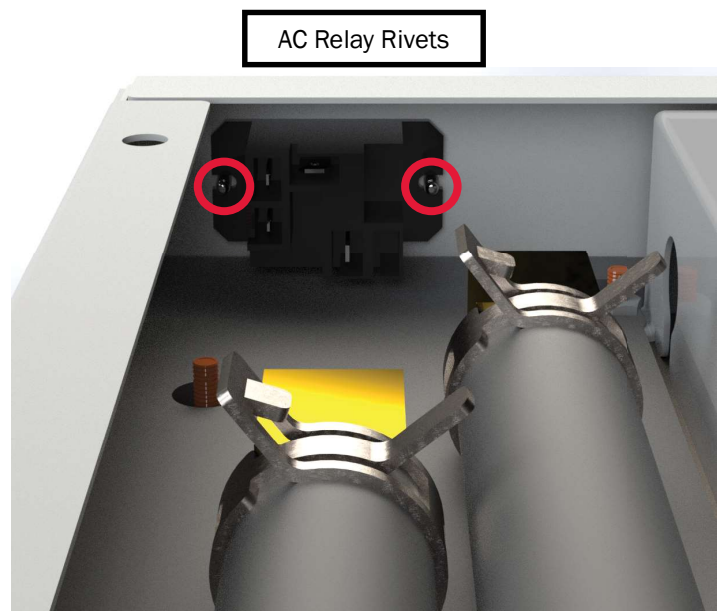

Figure 67
4. Remove the defective relay by drilling the rivets that hold the relay in place (reference Figure 67) and discard the defective relay.